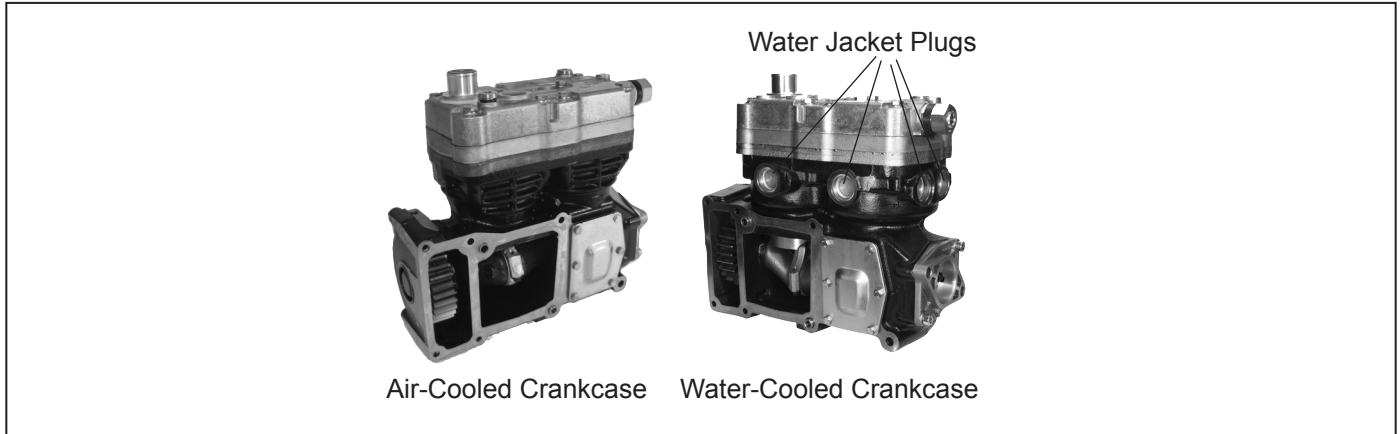

Figure 1 – Bendix® 720cc Crankcases may be Water-Cooled or Air-Cooled
**Note:** The compressor seal kit was developed to support the maintenance of more than one compressor model. This installation instruction sheet supports the Bendix® 720cc (DLU)-style compressor models shown in Figure 1. The main difference between the two styles of compressors is whether the crankcase is water-cooled or air-cooled. The water-cooled crankcase requires the crankcase o-rings (H); the air-cooled version does not. Figure 1 depicts the visual difference in the two compressor models.
Place a clean shop rag over the openings of the crankcase that expose the gear and crankshaft/connecting rod assembly (refer to Figures 1 and 2). No contamination is permitted in these areas.